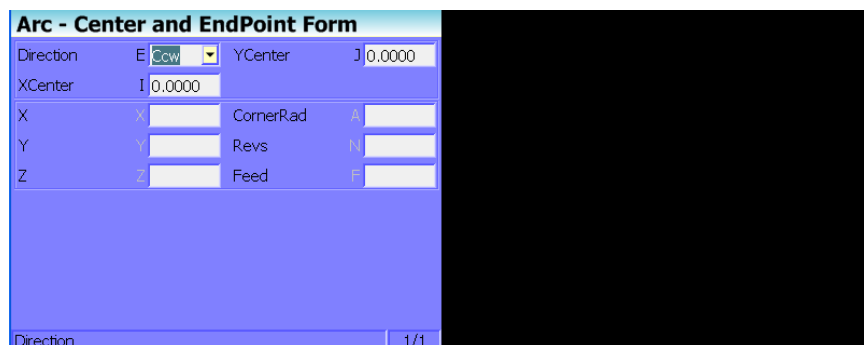

Figure 3-16, Arc – Center and EndPoint Graphic Menu
3. Highlight **Arc – Center and Endpoint Form** and press **ENTER** to display the graphic menu. Refer to **Figure 3-16**.
4. Highlight **Arc – Center and EndPoint Form** and press **ENTER** to display the graphic menu. Refer to **Figure 3-16**.